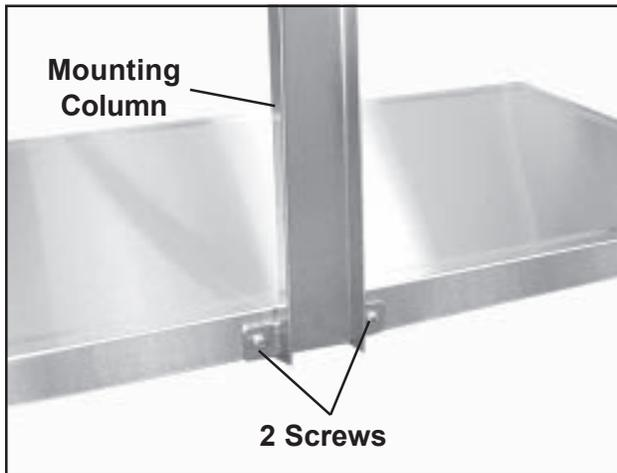

Figure 10. Attaching the Mounting Column to the Platform
4. Remove the two Phillips head screws from the side of the platform frame (Figure 10).